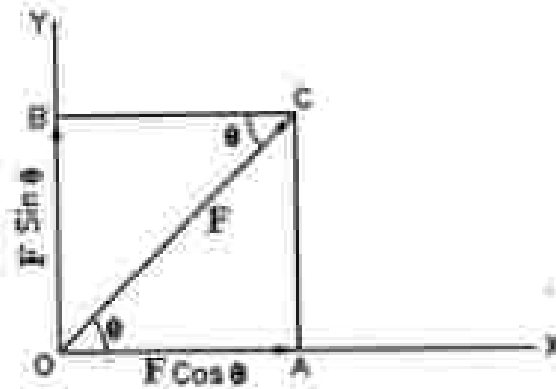

Fig 1.13
- Let a force F represented in magnitude and direction by OC make an angle θ with OX . Line OY is drawn through O at right angles to OX as shown in figure 1.13.